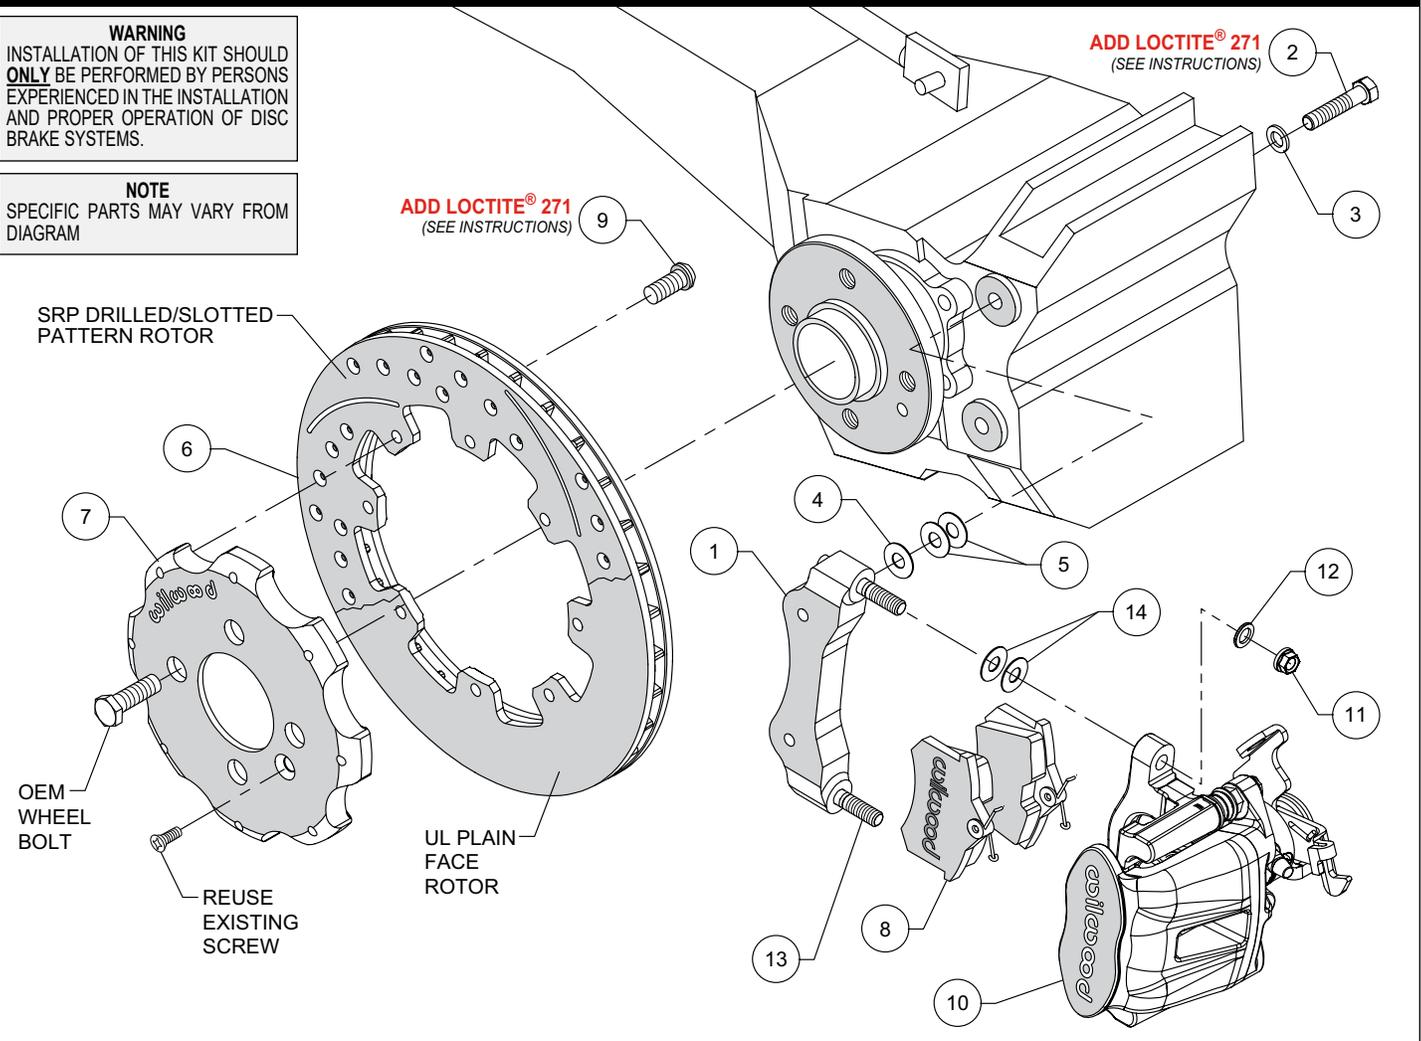

Figure 1. Typical Installation Configuration
- The caliper mounting bracket (1) should be installed first with clean, dry threads on the mounting bolts. Install the bracket (1) on the outboard side of the hub assembly by sliding bolt (2) from the inboard side of the arm assembly through washer (3) through the existing OEM caliper mounting holes and thread into caliper mounting bracket (1). Place two shim washer (5) between the bracket (1) and the caliper mounting tabs (see figure 1). The mounting bracket (1) must tighten squarely against the outboard side of the arm assembly face. Inspect for interference from casting irregularities, machining ridges, burrs, etc.
- With the larger I.D. side of the rotor (6) facing away from the hat (7), attach rotor (6) to hat (7) using bolts (9) as shown in Figure 1. Using an alternating sequence, remove bolts one at a time, apply red *Loctite*® 271 to the threads, and torque to 25 ft-lb.
- Slide the brake pads (8) up into the caliper (10) from the bottom compressing the "v" spring clip until the pad snaps into place against the caliper bracket, pads should install easily without interference.
- Install two shims (14) over each stud (13) on the radial mount bracket (1). Slide the caliper (10) in place over the studs and rotor and install the washer (12) and lock nut (11) to hold the caliper in place. The caliper bleed screw should be pointing toward the rear of the vehicle. Snug the lock nuts (11) and check that the caliper (10) is centered over the rotor (6). Add or subtract .016" shims (4) and/or .035" shims (5) as necessary between the caliper mounting bracket (1) and the spindle face to center the caliper (10) on the rotor (6).
- Check that the outside radius of the brake pad (8) is flush with the outside diameter of the rotor face. Add or subtract shims (14) between the caliper (10) and the caliper mounting bracket (1) to gain the proper alignment.
- Check that the caliper is centered side to side on the rotor. Add or subtract shims, (4) and/or (5) between caliper bracket (1) and arm to properly position the caliper.
- Once all clearances have been checked, remove the wheel, caliper and rotor from the axle flange. Secure the caliper mounting bracket (1) to the hub assembly mounting holes while applying red *Loctite*® 271 to the bolt threads (2). Torque bolts (2) to 35 ft-lbs. Reinstall the rotor and again use several wheel bolts to hold it in place. Reinstall the caliper, torque the caliper nuts (11) to 30 ft-lbs.